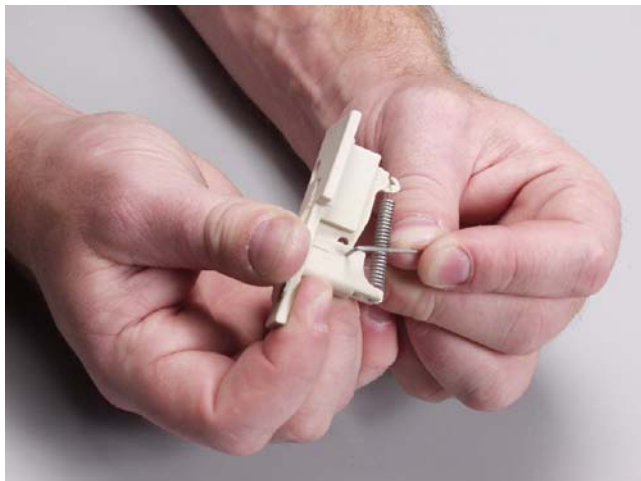

Figure 4-Removing latch hoop from assembly
5. Remove the latch hoop from the end plate assembly that has been disconnected from the latch cord. To do this, simply press in on the locking blade and spread the hoop ends, separating the ends from the holes in the blade. See figure 4.